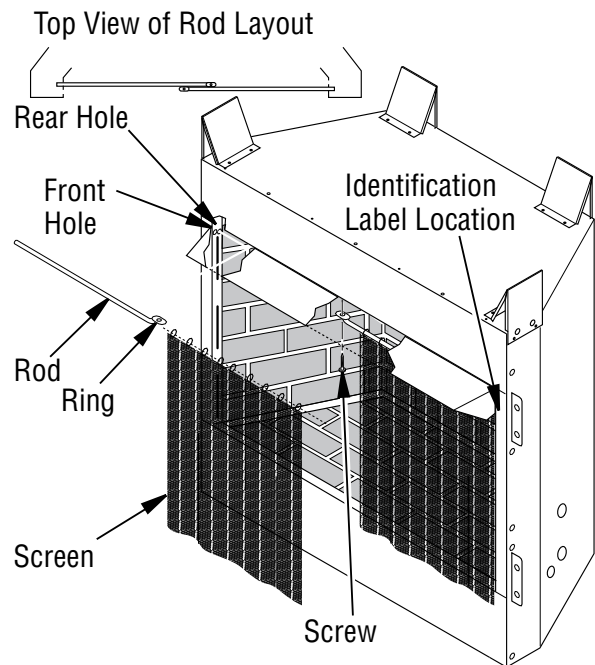

Figure 19 - Installing Fireplace Screen (Model May Vary From Illustration)
NOTICE: The firebox identification label (including model number, serial number, clearances, etc.) is located in the right side screen pocket area on the front of the firebox. See *Figure 19, Page 14*.
3. Insert first rod into rear hole in left side of firebox. Fasten rod to rear hole near center of firebox using #10 x 3/8" Phillips screw provided (see *Figure 19*).